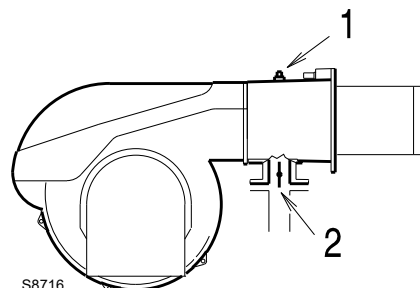

Fig. 26
Gas pressure measured at the test point 1)(Fig. 26), with:
Pressure loss at gas butterfly valve 2)(Fig. 26) with maximum opening: 90°.
- Subtract the combustion chamber pressure from the gas pressure measured at test point 1)(Fig. 26).
\text{Gas pressure at test point 1)(Fig. 26)} &= 17.0 \text{ mbar} \\
To know the required gas pressure at test point 1)(Fig. 26), set the maximum output required from the burner operation, then:
- Read, on the right (column 1) the socket pressure 1)(Fig. 26).
pressure required at test point 1)(Fig. 26).
- Bleed the air from the piping of the gas train, connecting a plastic tube to the pressure test point 1)(Fig. 26) of the minimum gas pressure switch. Take the vent tube outside the building so you can notice the smell of gas.